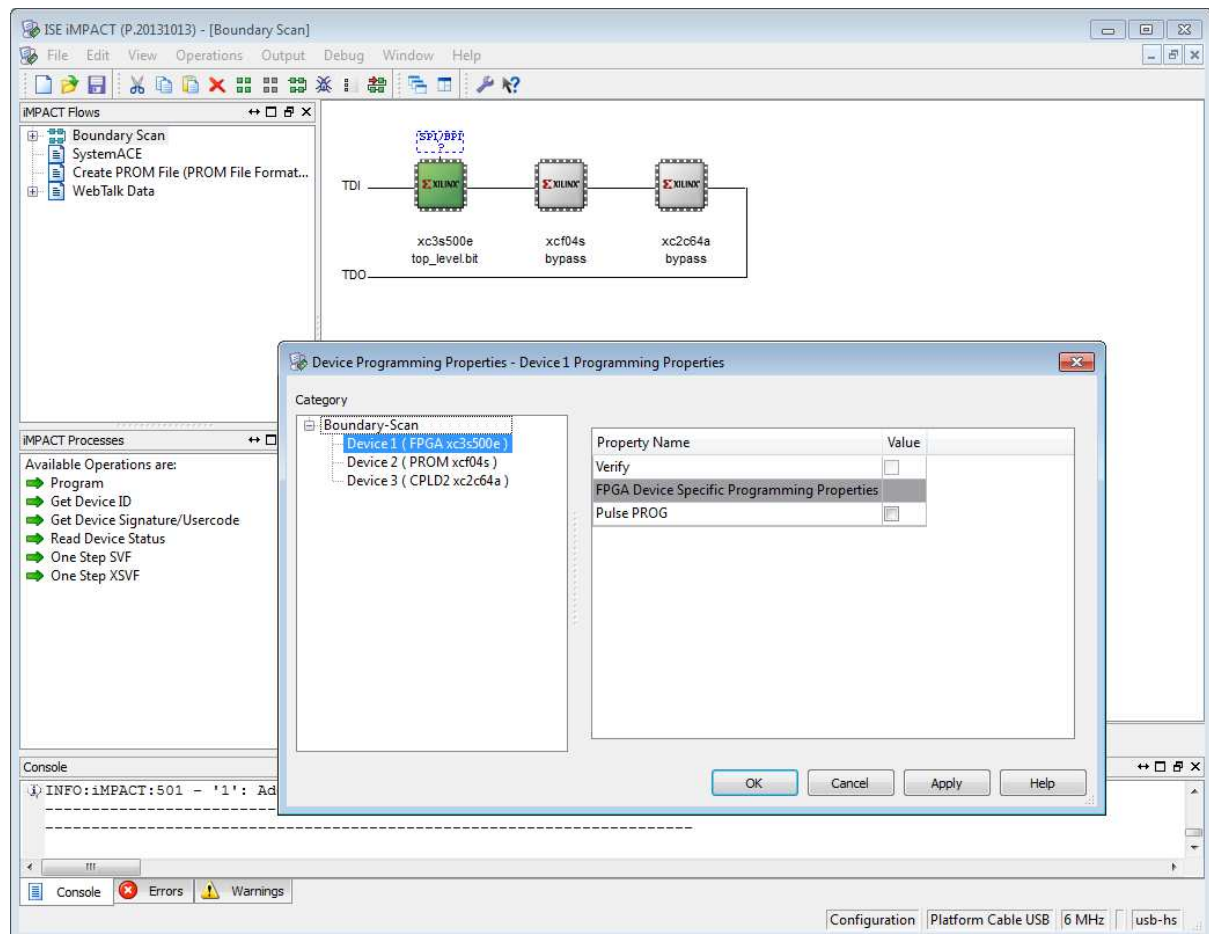

Figure 3.37: iMPACT window, Device Programming Properties dialog box.
12. A window entitled **Device Programming Properties – Device 1 Programming Properties** will appear (Figure 3.37). Click **OK**.